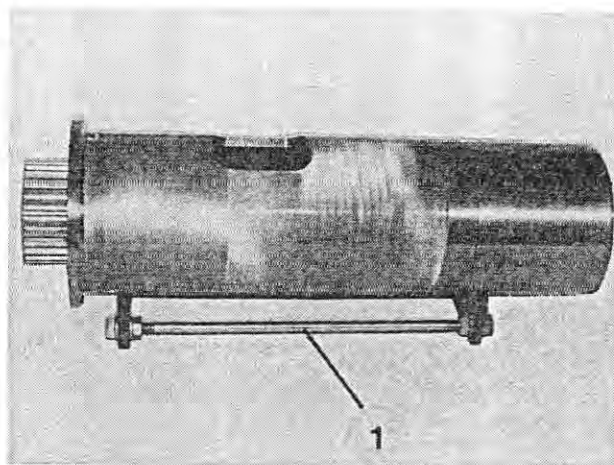

Fig. 209
13. When machines with a direct connection or a hopper are used, place the rotary cylinder in the support (Figure 209/1) and clean it.
The rotary cylinder must only be placed in the support (Figure 209/1).